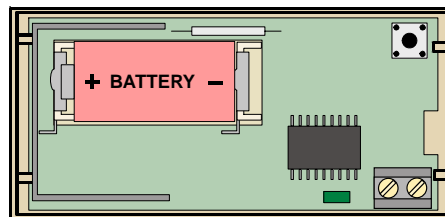

Figure 7 - Correctly-Installed Battery
- Install a recommended battery (refer to Section 2.0 on page 1). Be sure to observe the proper polarity (refer to Figure 7).